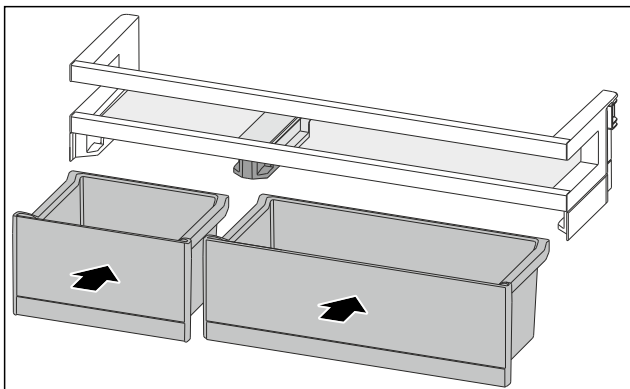

Fig. 113
- ▶ Insert the VarioBoxes in reverse order. (see Fig. 113)